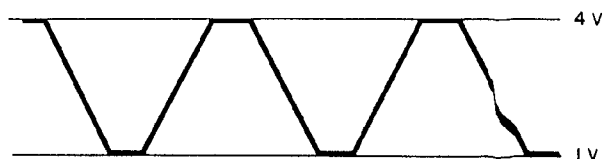

Fig. 6-4 Waveform
3. Adjust VR1 to obtain a waveform as shown in Fig. 6-4. (The top and bottom halves of this waveform should be symmetrical with a slight amount of clipping at the top and bottom).